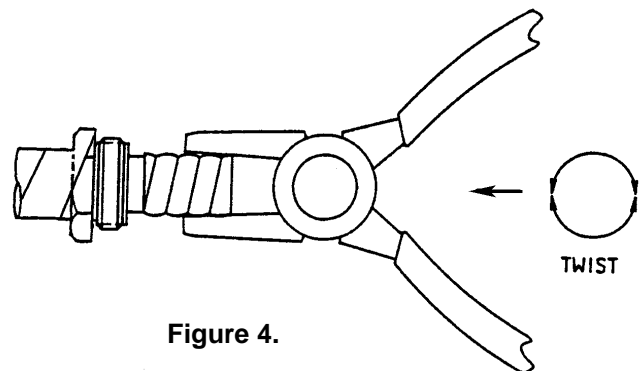

Figure 4.
7. Grasp the cut end of outer conductor with pliers and carefully remove it from the dielectric. Use a twisting motion to free the cut section if necessary. See Figure 4.